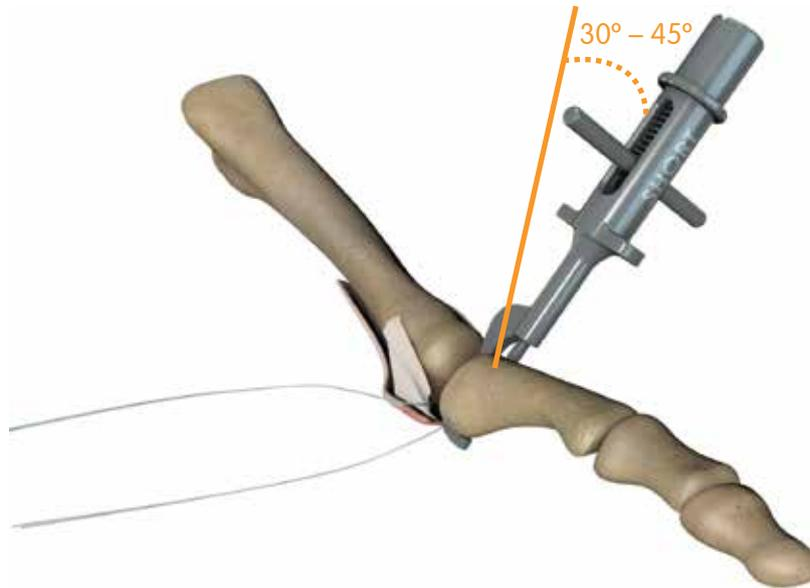

Figure 14: Concavity of the phalanx fully engaged
1. Place the distal tip of the Phalangeal Drill Guide, Short Offset (REF 72204321) at the ligament attachment site on the bony rise of the phalanx. Place the curve of the drill guide on the concavity of the phalanx. Place the proximal end of the drill guide $30^{\circ} - 45^{\circ}$ to the sagittal plane (Figure 14).